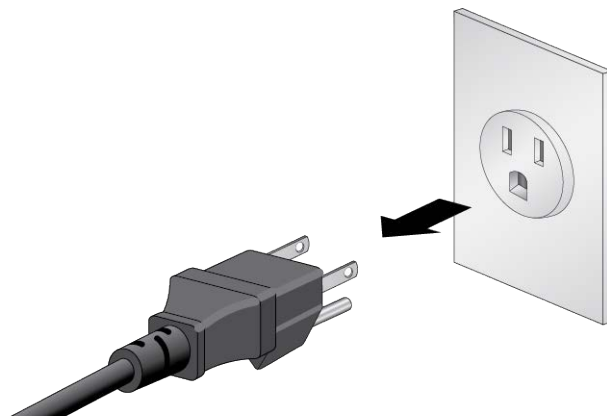

Figure 144. Disconnecting the AC Power Cord from the Power Source
1. Disconnect the AC power cord for the power supply from the AC power source. Refer to Figure 144.